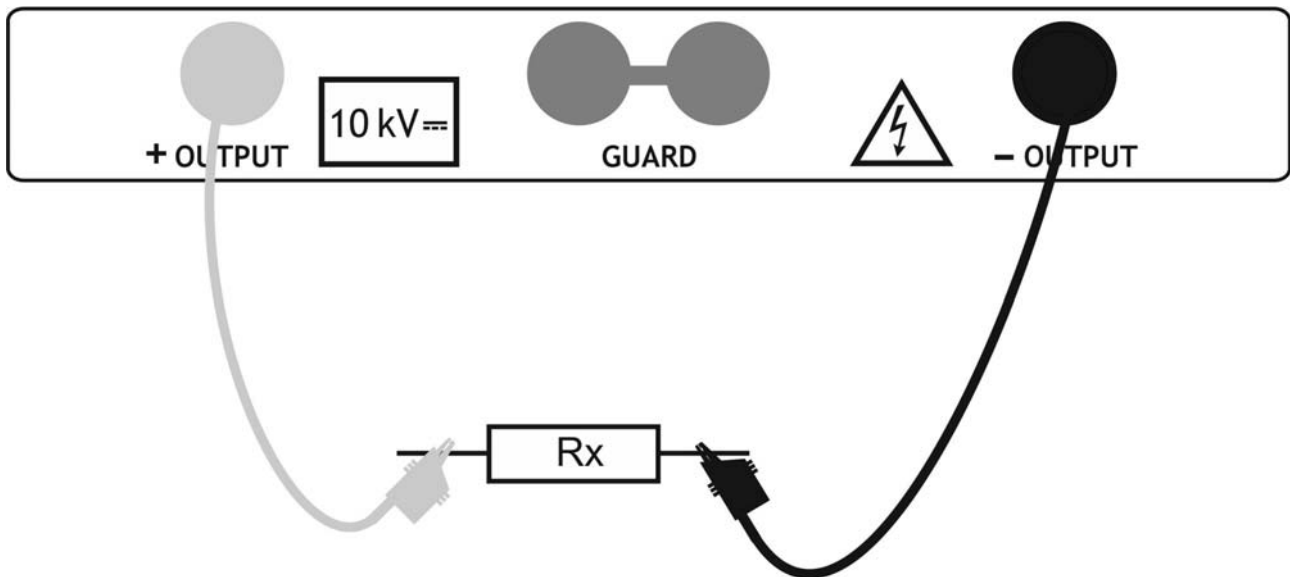

Fig. 24: Connection of instrument for insulation measurement
4. Connect the tip of Test lead 1 or Test leads 2 (positive) and the black cable of Test leads 2 (negative) to the object on test (see Fig. 24)